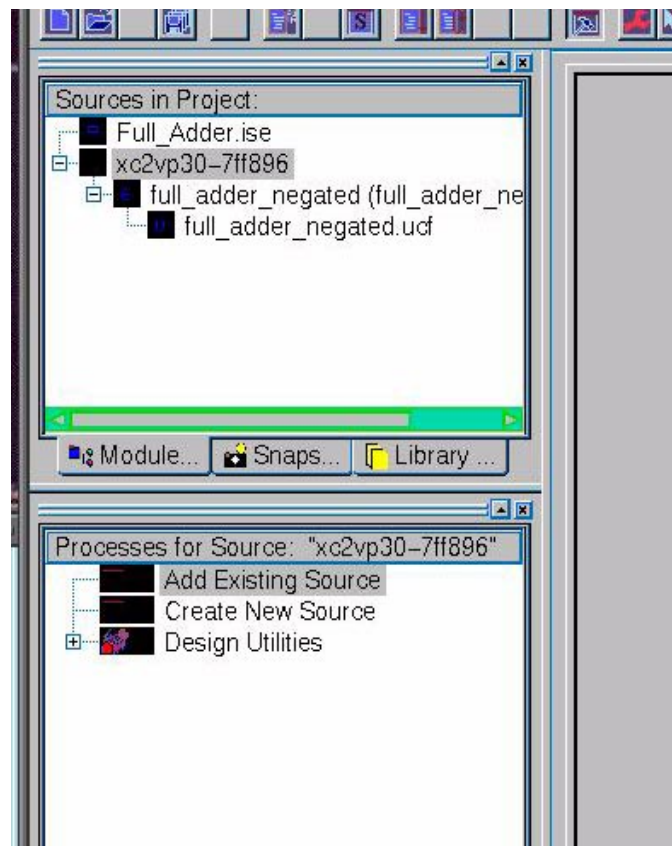

Figure 26.
(7) The Project Navigator window will change to that shown in Figure 26.